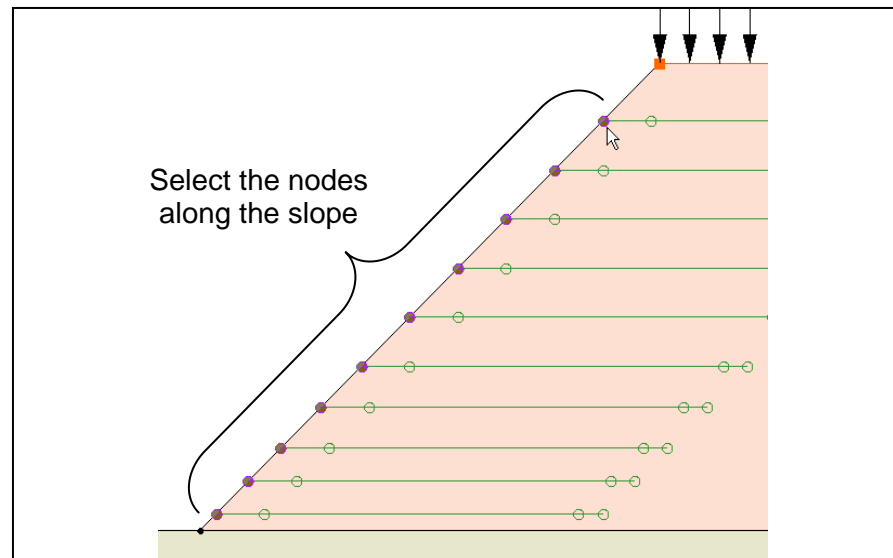

Figure 8. Selecting the reinforcement nodes along the slope.
2. Hold down the shift key and select all the reinforcement nodes on the left ends of the reinforcement arcs – the nodes that intersect the slope – as shown in Figure 8 below.